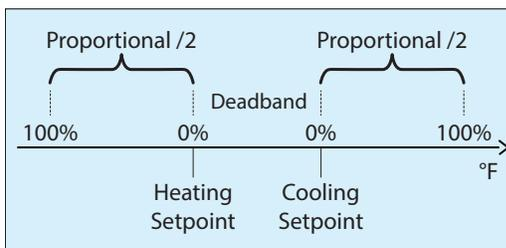

Figure 21 - Proportional component of demand
- **Proportional:** Defines the proportional band used by the **VAV Zone Controller** to calculate the proportional component of the demand. Please refer to Figure 21. Setting this value to zero removes proportional control, and consequently, integral control. Demand will always be zero.